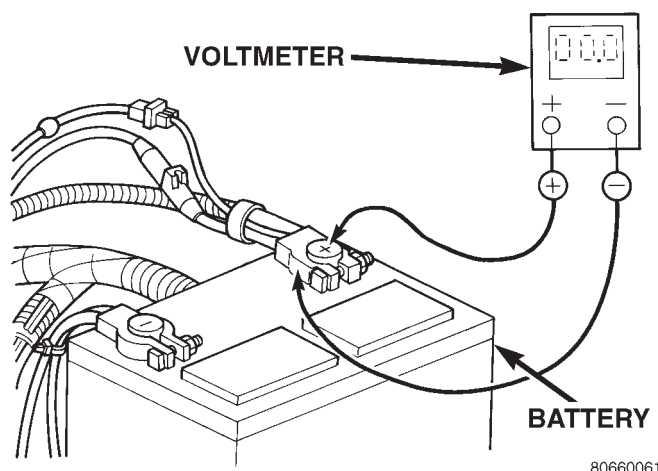

Fig. 12 Test Battery Positive Connection Resistance - Typical
(2) Connect the positive lead of the voltmeter to the battery positive terminal post. Connect the negative lead of the voltmeter to the battery positive cable clamp (Fig. 12). Rotate and hold the ignition switch in the Start position. Observe the voltmeter. If voltage is detected, correct the poor contact between the cable clamp and the terminal post.